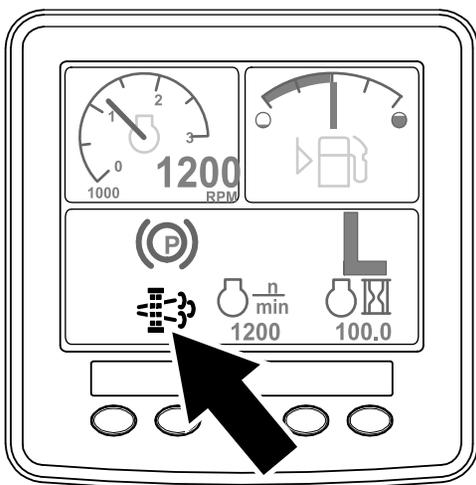

Figure 62
- The parked-regeneration requested icon displays in the InfoCenter (Figure 62).